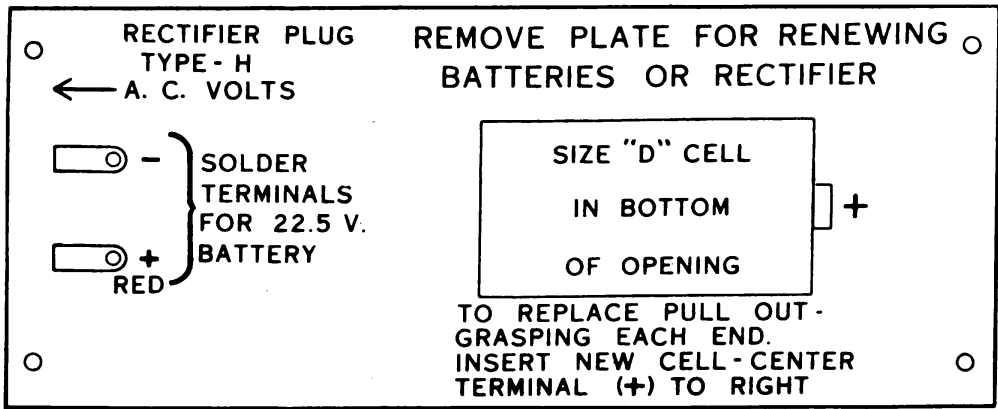

FIG. 21. MODEL 104 AND MODEL 1183-SC COMBINATION TESTER, BATTERY REPLACEMENT PANEL
b. *Battery Replacement.* Instructions for replacing batteries are printed on the panel (fig. 21). As the batteries drop in potential because of use or age, the OHMS ADJUST. control must be turned closer to 100 for a zero adjustment. When the meter pointer cannot be brought to 0 on the upper scale of the ohmmeter with the test leads shorted together (on any one of the ohmmeter ranges), the battery serving that range should be replaced. Do not replace batteries until the battery clips have been inspected. A poor battery connection may give the same indication as a bad battery. Batteries are replaced as follows: